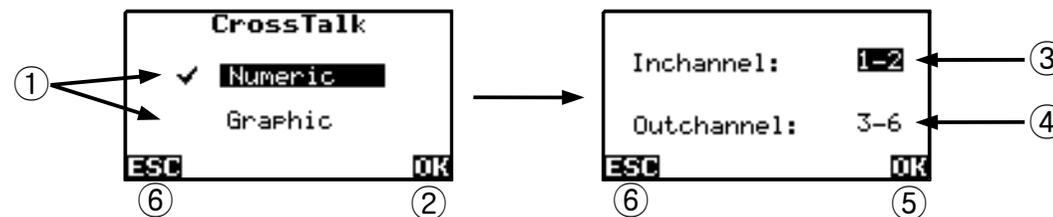

Figure 19. Selecting Crosstalk Test
- ① To change the input channel and measuring channel, press **F1**. (See Figure 19)
- ② Mode indicator for  It also shows the current setting. To change its mode, press **MODE**. (See Section 8.6)
- ③ Distance (between Cursor1 and Cursor2) or VOP. To swap them, press **F2**.
- ④ Cursor1 and Cursor2. To move them, use  with its mode set to "CURSOR1" and "CURSOR2" respectively. (See Section 8.6)